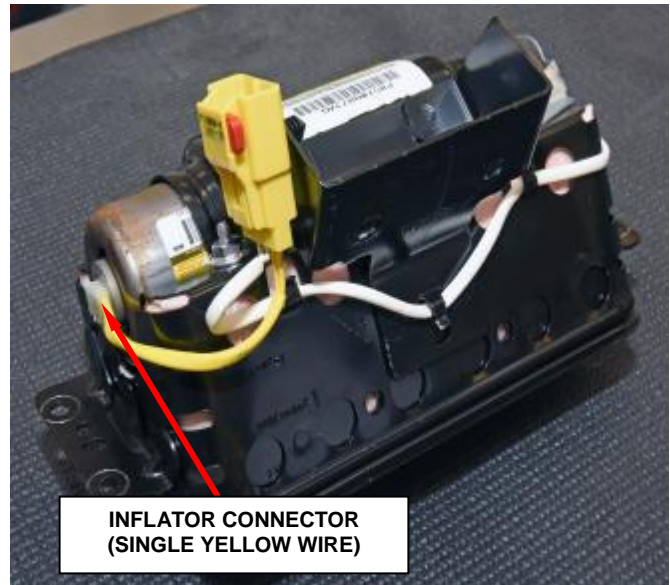

Figure 69 – Inflator Connector
b. Use pliers to grasp the single yellow wire inflator connector then wiggle as you pull up until it is disconnected from the inflator (Figure 69).